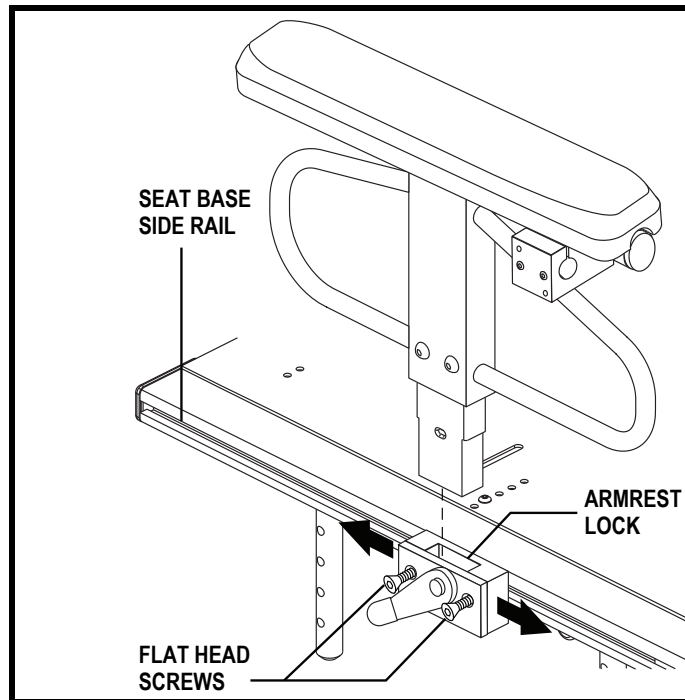

Figure 12. Armrest Position Adjustment
2. Loosen the hardware that fasten the armrest lock to the seat base side rail. See **figure 12**.
5. Install the armrest in the armrest lock. See **figure 12**.